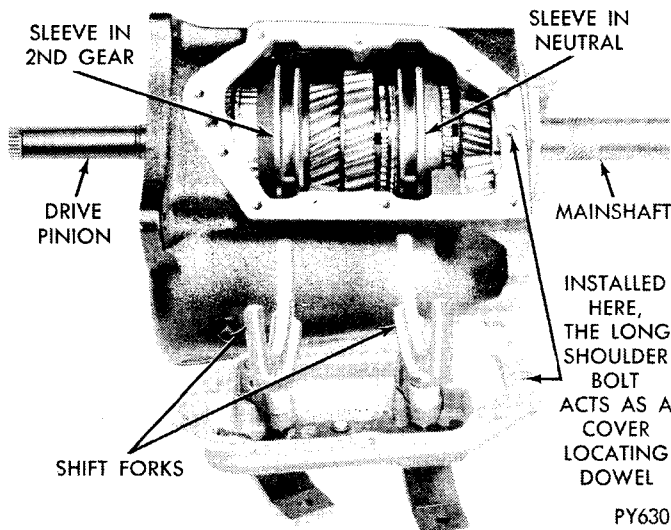

Fig. 5—A-230 Transmission with Shift Mechanism, Pinion Bearing Retainer and Extension Housing Removed
- (1) Shift transmission to second gear for shift fork clearance.
- (2) Remove housing retaining bolts and lift shift mechanism from case (Fig. 5).
- (3) If shaft "O" ring seals need replacement, or interlock levers are cracked, proceed as follows: Pull shift forks out of shaft.